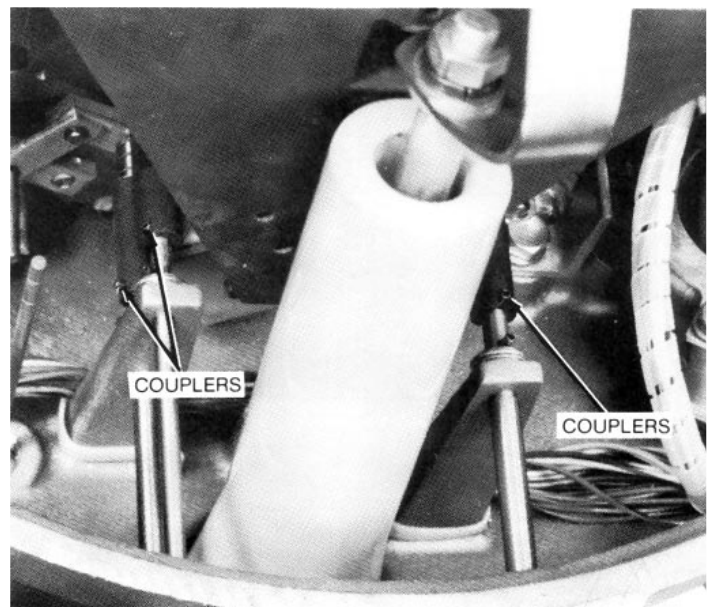

Figure 21.
4. Uncouple the shafts of the two operating handles and indicator under the sleet hood by locking the couplings in the disconnected position as shown in Figure 21.